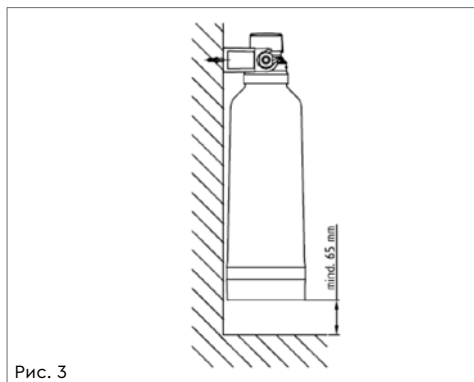

Рис. 3
2. The filter system is to be installed and operated in vertical position (see Fig. 3).